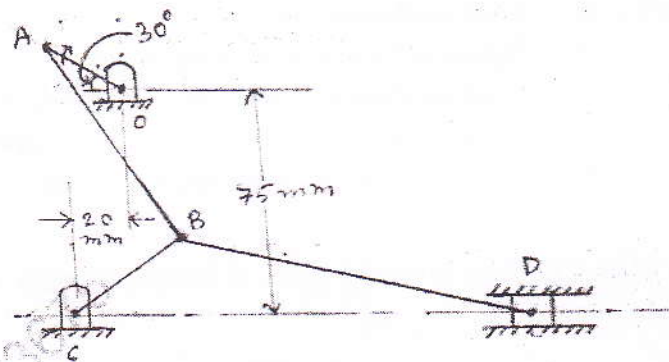

fig. 2
- Q2) The dimensions of the various links of a mechanism shown in fig. 2 are:  $OA = 30$  mm,  $AB = 80$  mm,  $BC = 45$  mm and  $BD = 120$  mm. [18]